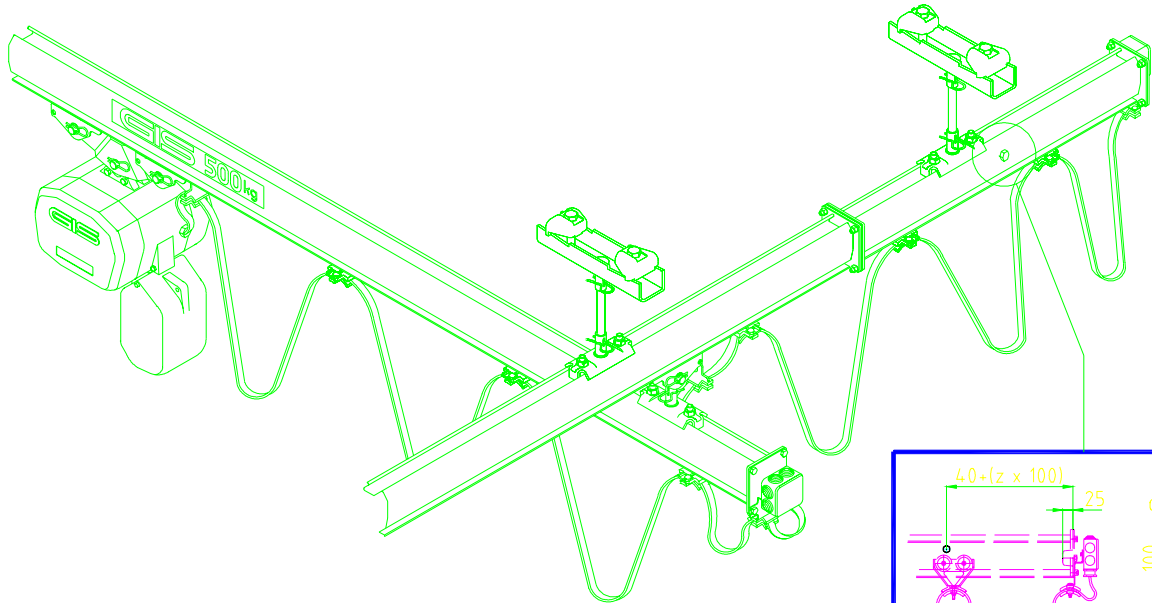

Figure 1-15
a) Monorail (Figure 1-15)
b) Suspended crane (Figure 1-15)